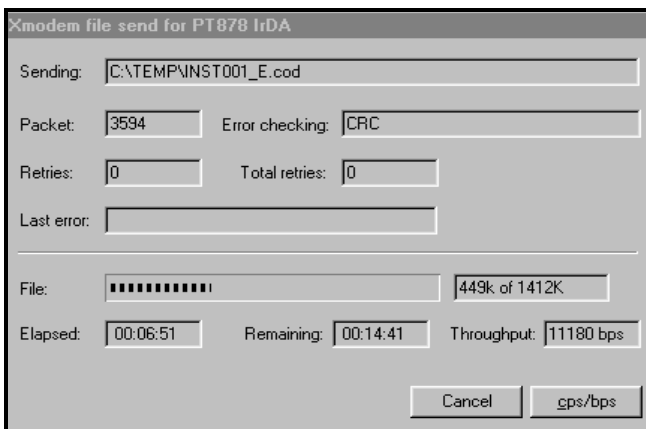

Figure 136: The File Transmission Window
- Click *Send*. For a successful transfer, the PC window appears similar to Figure 136 on page 201, while the PT878 screen displays the program ID, size, load address and a count of blocks being loaded.